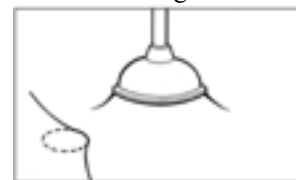

Figure 10
- a. To determine if a weld has been made, place the plunger next to a welded plate and create enough suction to lift the membrane. A weld will create the membrane as shown in Figure 10. If the assembly is not welded, the membrane will lift up from the plate